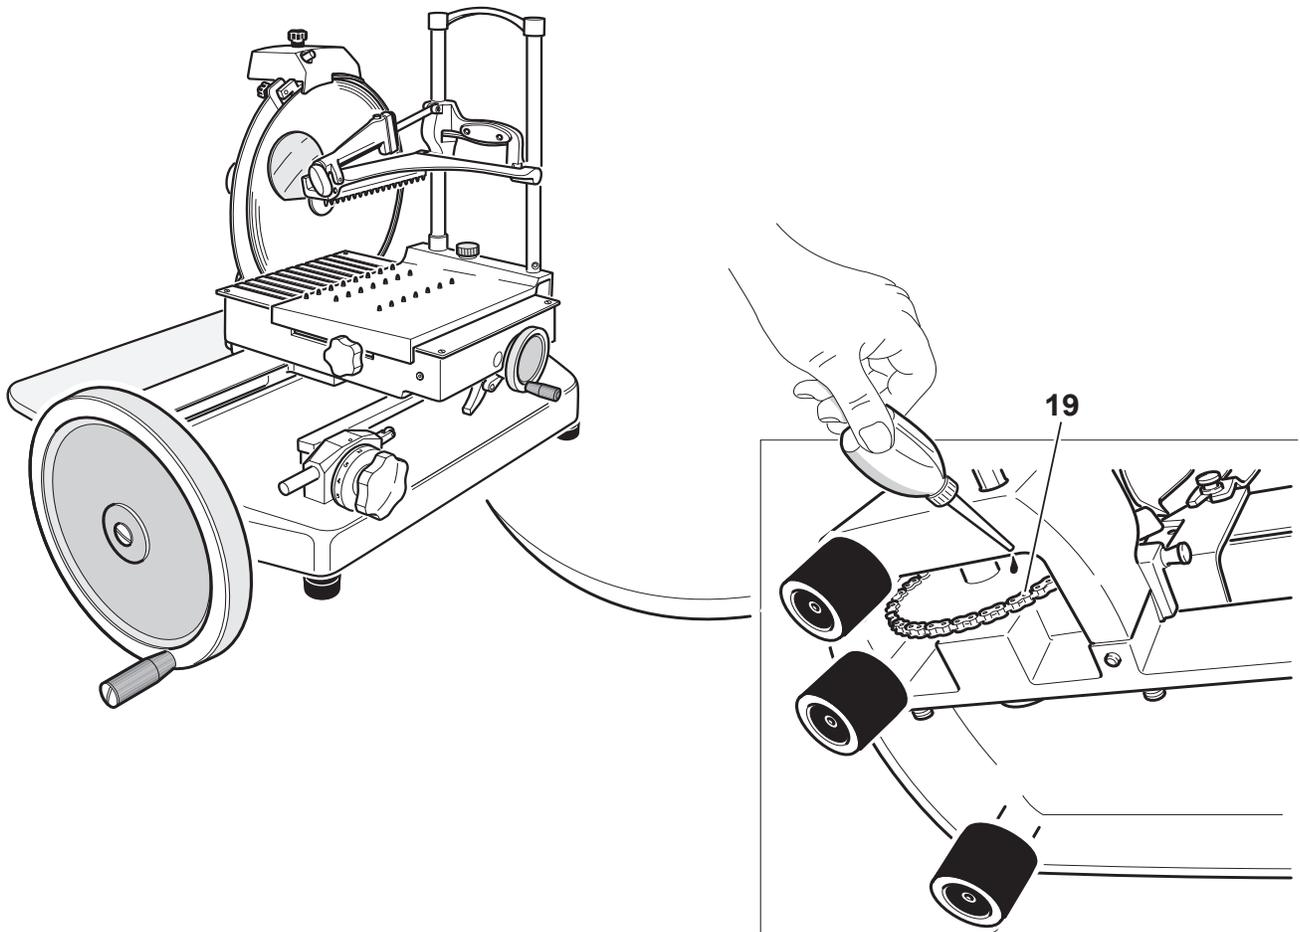

Figure 24-1
1. Lift the slicer and apply 3 to 4 drops of the supplied lubricant to the oil chain (19) (Figure 24-1).